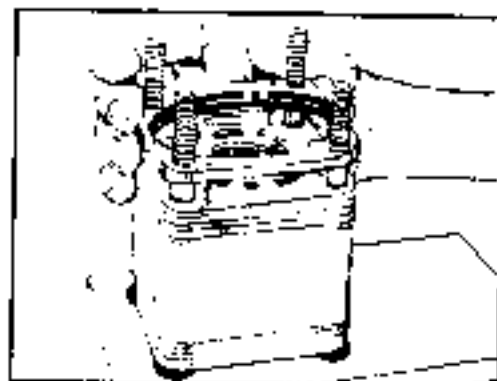

FIGURE 80.
- 32 Apply clean grease to a seal ring (3) and place it in the valve ring (12) recess that will face down when installed. Install the valve ring over the bolts and alignment pins with seal ring facing the isolation manifold (15). See figure 80.